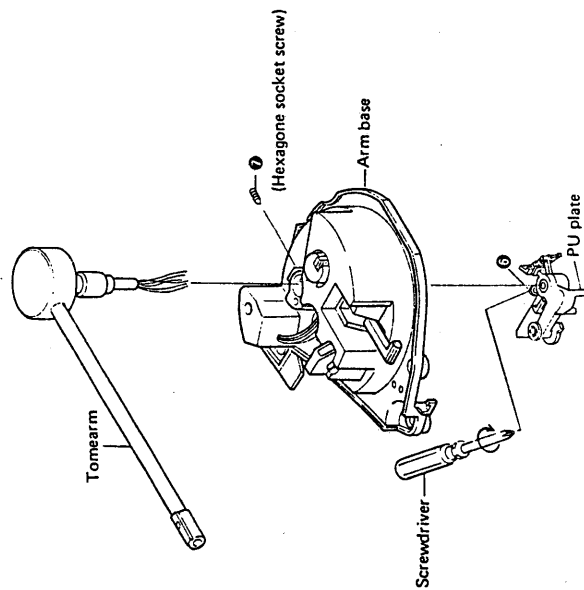

Fig. 3-3 Remote tonearm
- Loosen the set screw ③ with a screwdriver to remove the PU plate under the arm base (See Fig. 3-3).
- Undo the screw ④ securing the tonearm to the arm base (See Fig. 3-3).